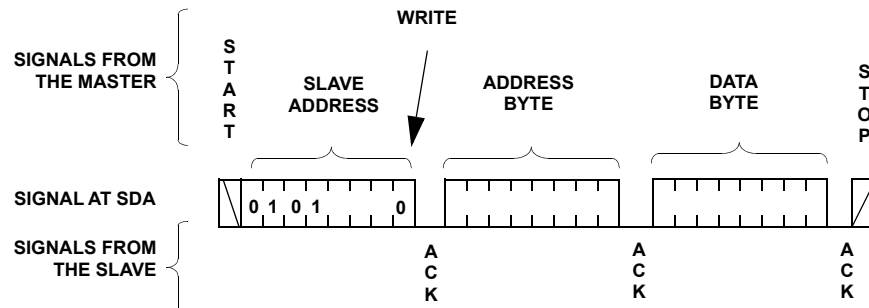
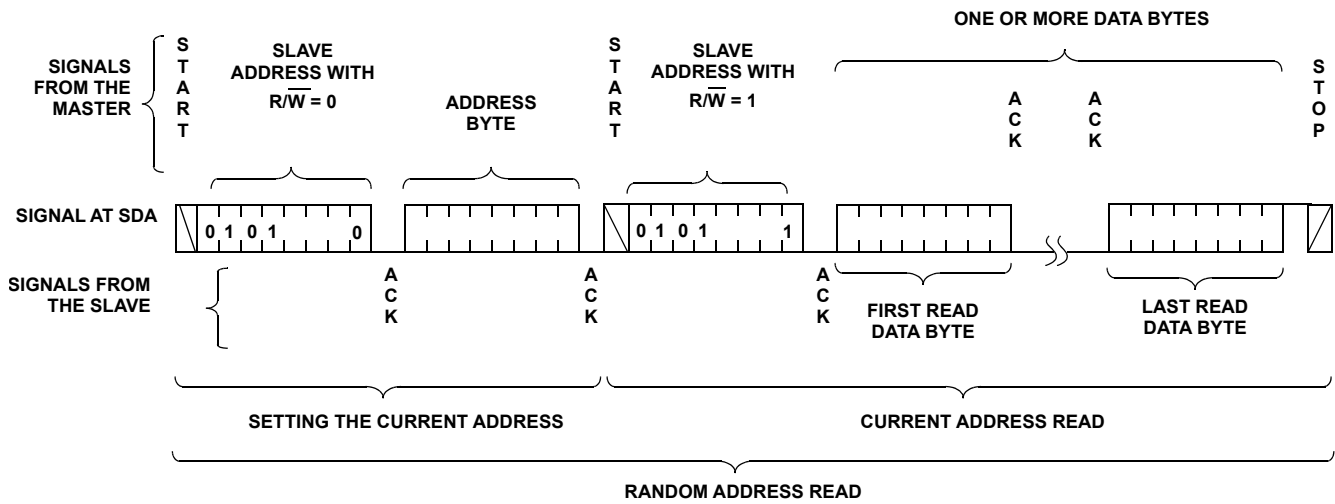

FIGURE 8. BYTE WRITE SEQUENCE
FIGURE 10. MOVE/READ SEQUENCE
14. Access the desired DR or WCR using a new write or read command (see Figure 8 for write and Figure 10 for read.)
For any Byte Write operation, the X9252 requires the Slave Address byte, an Address Byte, and a Data Byte (see Figure 8). After each of them, the X9252 responds with an ACK. The master then terminates the transfer by generating a STOP condition. At this time, if the write operation is to a volatile register (WCR, or SR), the X9252 is ready for the next read or write operation. If the write operation is to a nonvolatile register (DR), and the WP pin is high, the X9252 begins the internal write cycle to the nonvolatile memory. During the internal nonvolatile write cycle, the X9252 does not respond to any requests from the master. The SDA output is at high impedance.
The Move/Read operation simultaneously reads the contents of a Data Register (DR) and moves the contents into the corresponding DCP's WCR and the WCRs of all DCPs are updated with the content of their corresponding DR. Move/Read operation consists of a one byte, or three byte instruction followed by one or more Data Bytes (see Figure 10). To read an arbitrary byte, the master initiates the operation issuing the following sequence: a START, the Slave Address byte with the R/W bit set to "0", an Address Byte, a second START, and a second Slave Address byte with the R/W bit set to "1". After each of the three bytes, the X9252 responds with an ACK. Then the X9252 transmits Data Bytes